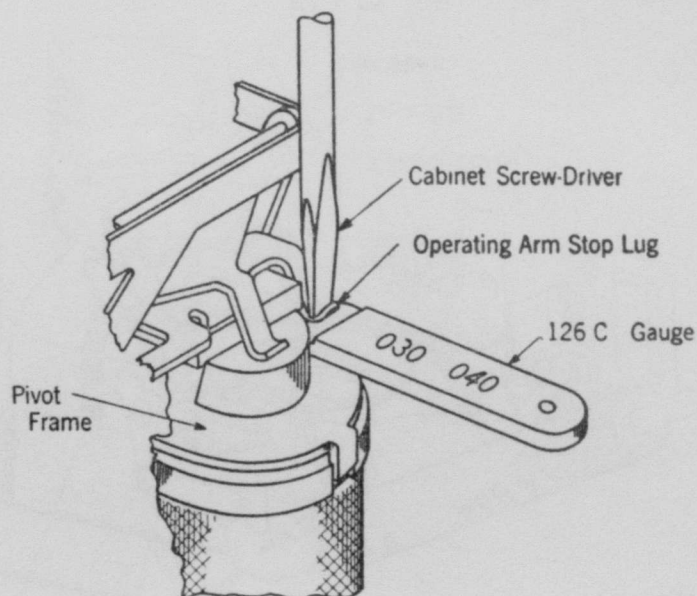

Fig. 18.
5.13 The coin trigger when in the operated position shall restore to its normal position and there shall be a perceptible clearance (approximately $1/64''$) between the top of the coin trigger and the coin trigger lever when either of the operating arm stop lugs is given its full travel, but shall not restore when either of the operating arm stop lugs is moved down slowly by hand to within $.030''$ of its full down travel when pressure is applied inside the rounding at the end of the operating arm stop lugs as shown in Fig. 18. To gauge the $.030''$, place the $.030''$ portion of the No. 126C gauge or the $.030''$ blade of the No. 44 gauge between the stop lug and the pivot frame, as shown on Fig. 18, and (with the coin trigger tripped) press down slowly as described above. To adjust proceed as follows: